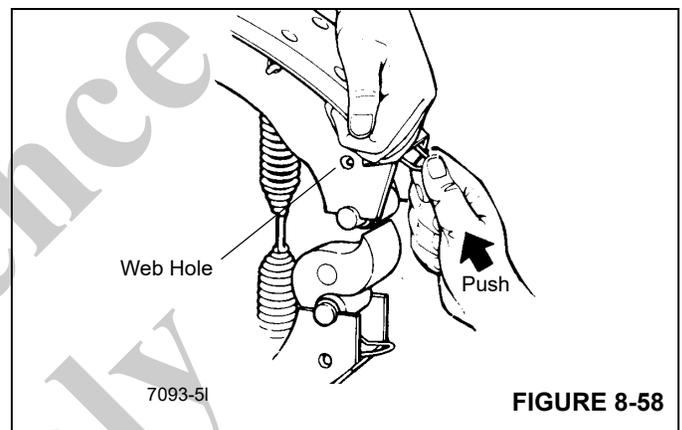

FIGURE 8-58
5. Install the slack adjuster and adjust brakes (Figure 8-58). Refer to the following Sub-Section, *Automatic Slack Adjuster*, page 8-44.